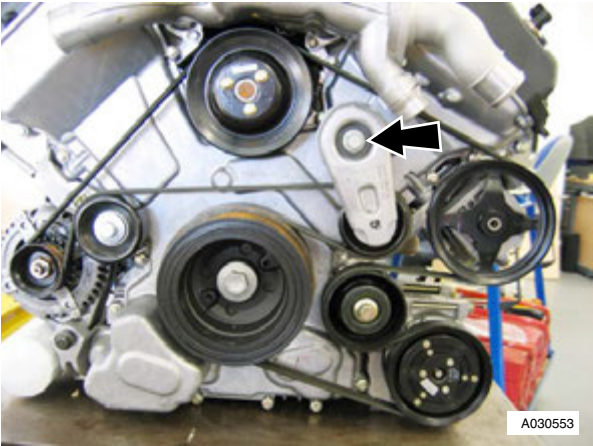

Figure 2
5. Release tensioner and slip belt from idler (refer to Figure 2).